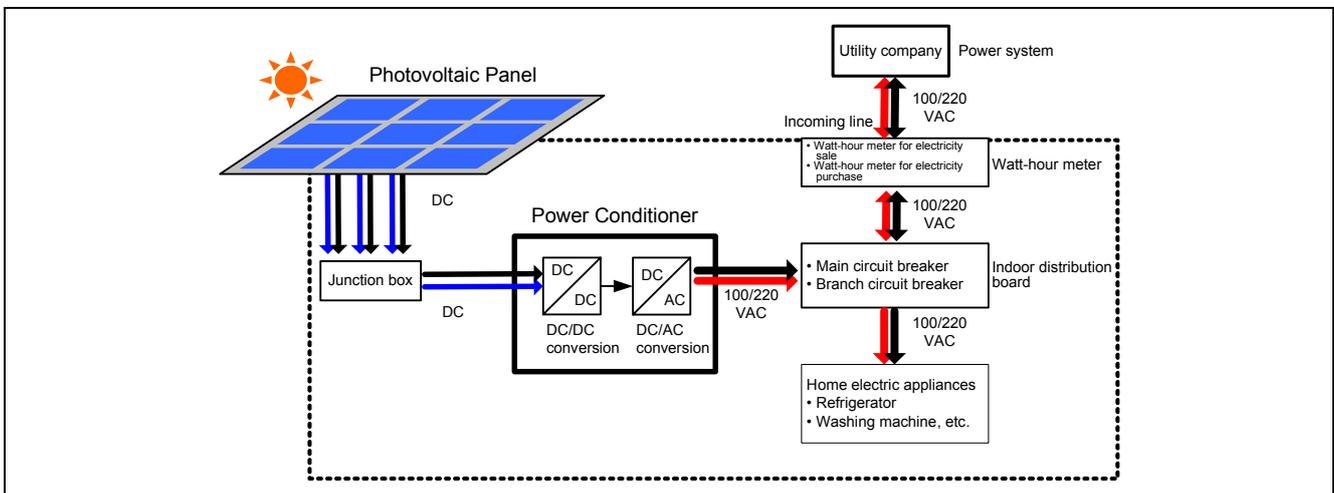

Figure 1 Solar Energy Generation System
A solar energy generation system consists of a photovoltaic (PV) panel and a power conditioner system (PCS). The photovoltaic panel converts solar radiation into DC electricity. The power conditioner system converts this DC electricity into AC electricity available for home use and then supplies it to the electrical power system. Figure 1 presents an overview of such a solar energy generation system.